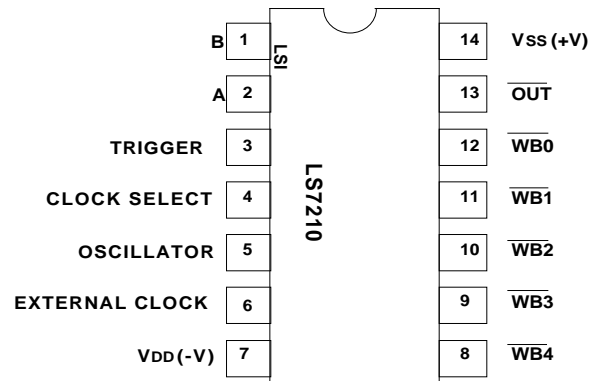

FIGURE 1
- 14-Pin Plastic DIP or 14-Pin SOIC Package (See Figure 1)